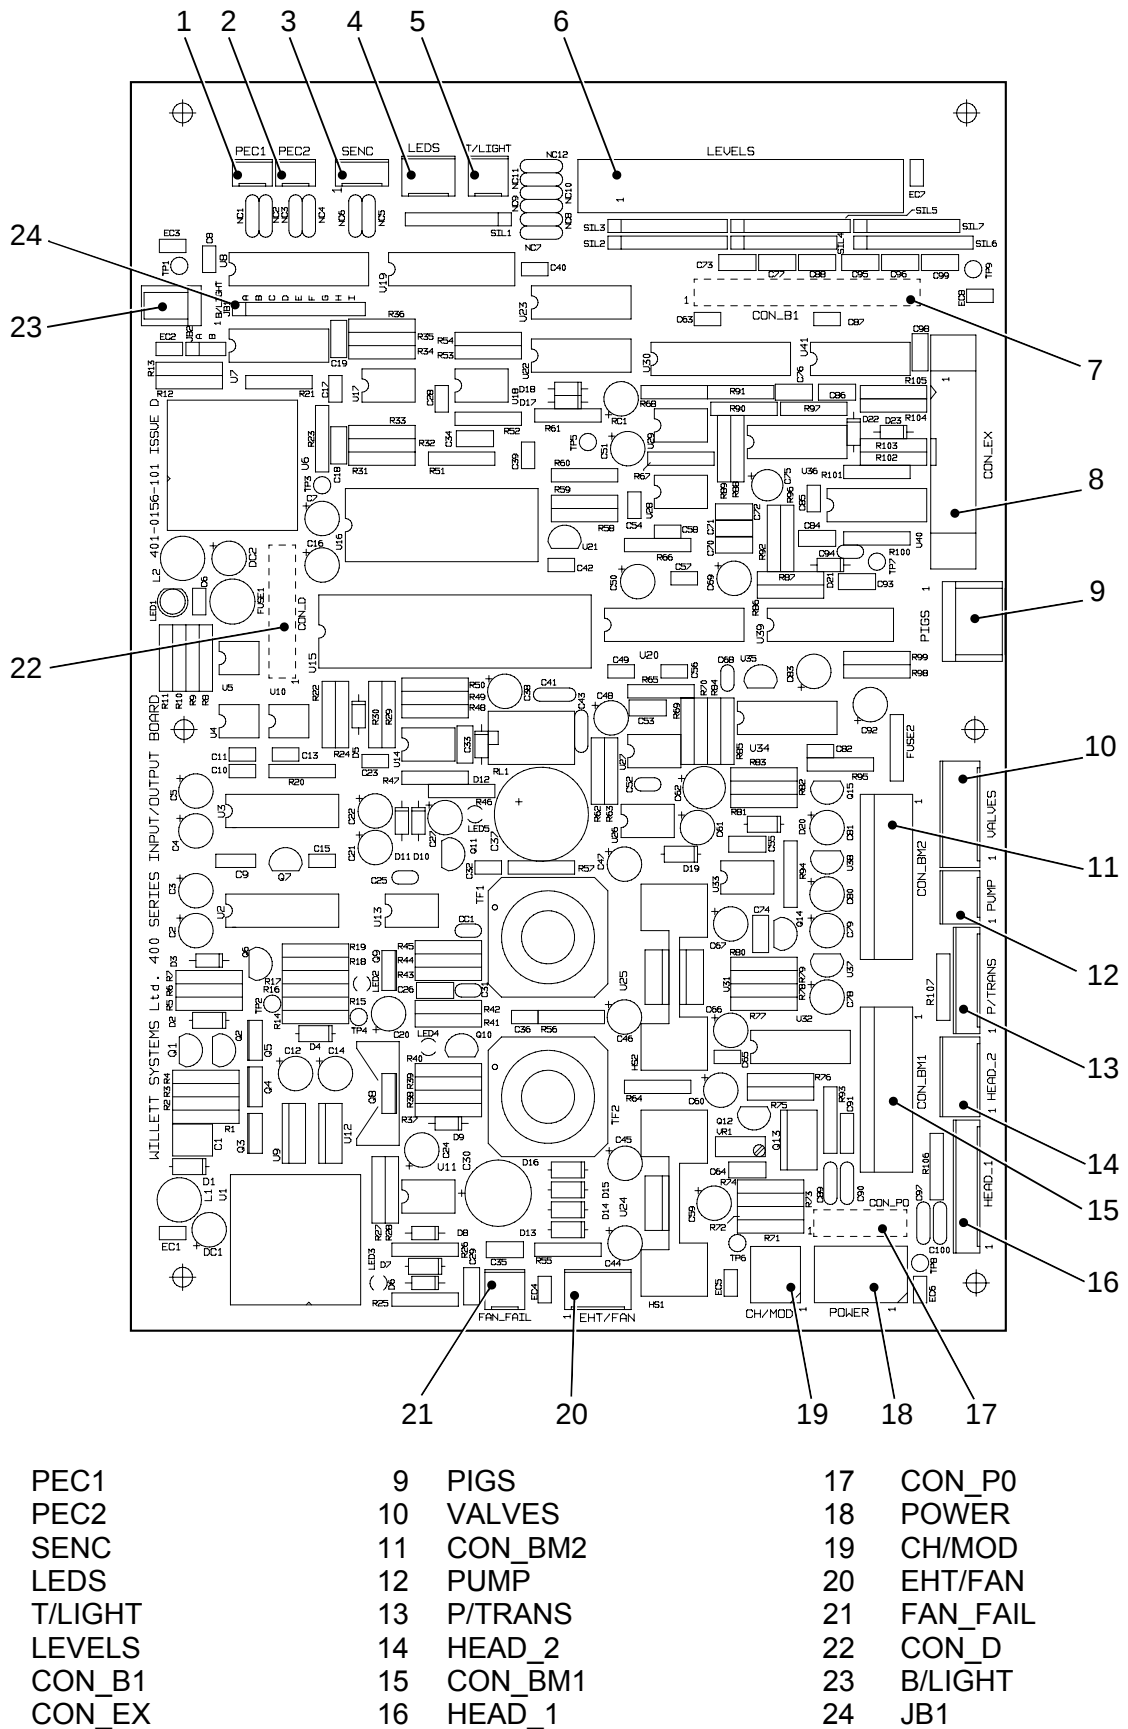

Fig 10.11 I/O board connectors
22.1 PEC1 (Fig 10.11 (1)) is connected to product sensor 1 via the connector panel (Table 10.9).